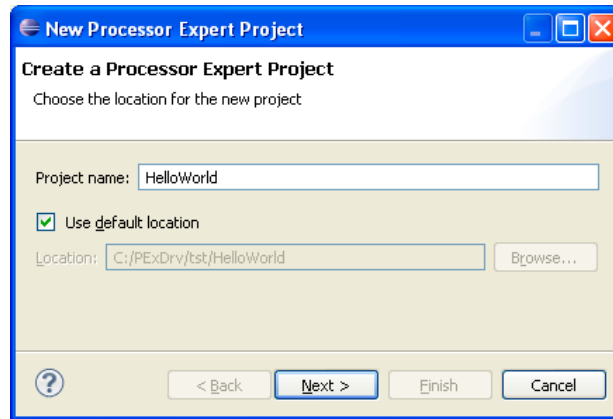

Figure 1. New Processor Expert Project Wizard - Create a Processor Expert Project Screen
2. Select **File > New > Processor Expert Project** from the IDE menu bar. The **Create a Processor Expert Project** screen of the **New Processor Expert Project Wizard** appears (Figure 1).
3. Type a name for the project in the **Project name** text box. For example, *HelloWorld* (Figure 1).